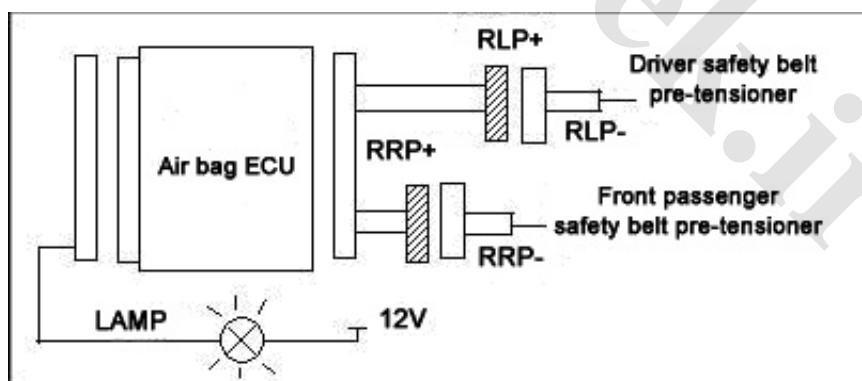

Fig. 5-10
- (1) Turn the ignition switch to position LOCK.
- (2) Remove the negative ground wire from the battery and wait for at least 3min.
- (3) Connect the interface on the driver safety belt pre-tensioner. See Fig. 5-10.
- (3) Connect the interface on the front passenger safety belt pre-tensioner. See Fig. 5-10.
- (4) Connect the negative ground wire on the battery and wait for at least 3min.
- (5) Turn the ignition switch to the position of ACC or ON and wait for at least 20s.
- (6) Eliminate the flash DTC by the diagnostic instrument and read out the flash DTC.
- (1) Unplug the interface between the air bag ECU and the clock spring. See Fig. 5-10.
- (2) Measure the resistance at one side of the air bag ECU. Normal resistance shall be above 1Ω.
- (3) Measure the resistance between the A+ at one side of the clock spring and A+ at one side of the air bag ECU. Normal resistance shall be within 1Ω.
- (4) Measure the resistance between the A- at one side of the clock spring and A- at one side of the air bag ECU. Normal resistance shall be within 1Ω.